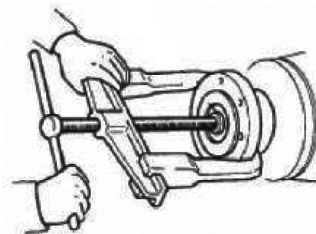

Fig.10
- Remove the pump coupling (see figure 10) and key by heating up.